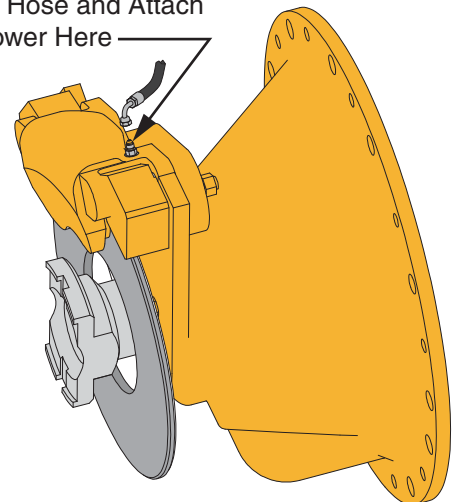

Figure 5-7-3 Connect Porta-Power
1. Remove hose from park brake caliper and connect porta-power (see Figure 5-7-3). Operate porta-power until park brake disengages.